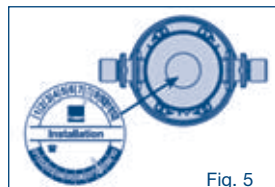

Fig. 5
- Mark the date (month/year) of installation on the installation plate supplied and glue it to the filter head (see Fig. 5).